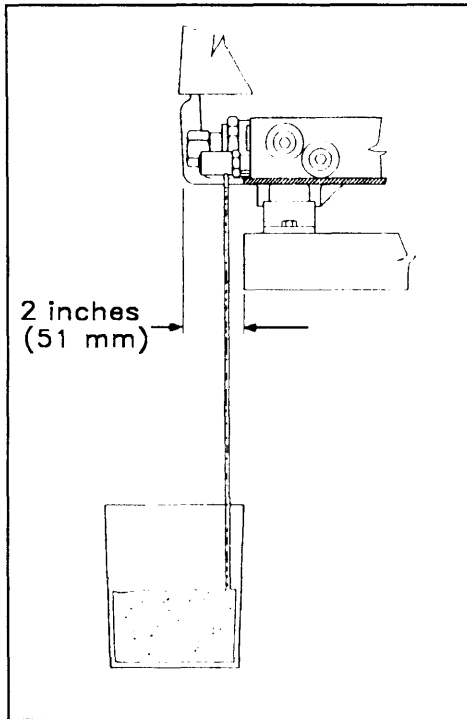

Figure 3.3
- Make sure that the applicator overhangs its support platform by about 2 inches (5 cm.) so that the unit will not drain onto the platform (see Figure 3.3).